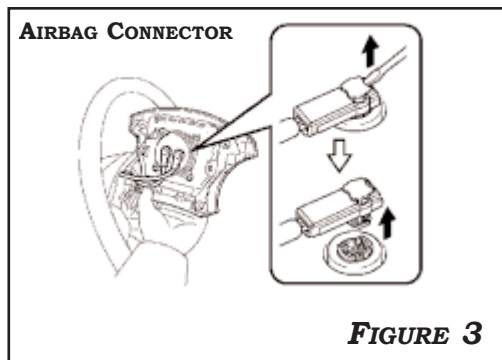

FIGURE 3
3. REMOVE GROUND TERMINAL AND DUMMY HORN/CRUISE CONNECTOR FROM STEERING WHEEL AND DISCARD. **IF GROUND HARNESS FOR HORN IS PRESENT ON A SEPARATE VEHICLE CONNECTOR, LEAVE HORN WIRE CONNECTED.** UTILIZE SMALL SCREWDRIVER TO REMOVE AIRBAG CONNECTORS AS ILLUSTRATED IN **FIGURE 3**.